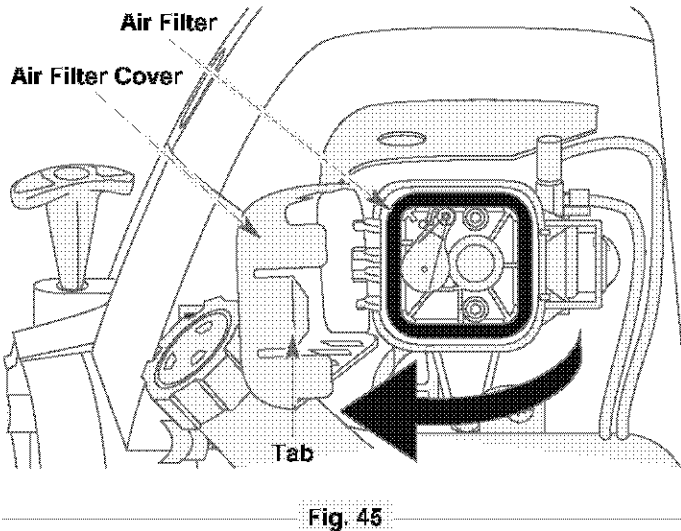

Fig. 45
1. Open the air filter cover. Push the tab on the right side of the cover in, pull the air filter cover out and to the left (Fig. 45).
2. Remove the air filter (Fig. 45).